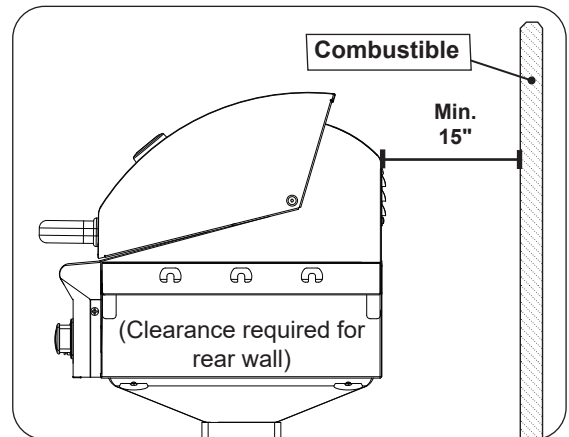

Fig. 14-3 Clearance 'C' Diagram
- The unit must have a minimum clearance of 15" from the combustible rear wall (see Fig. 14-3).